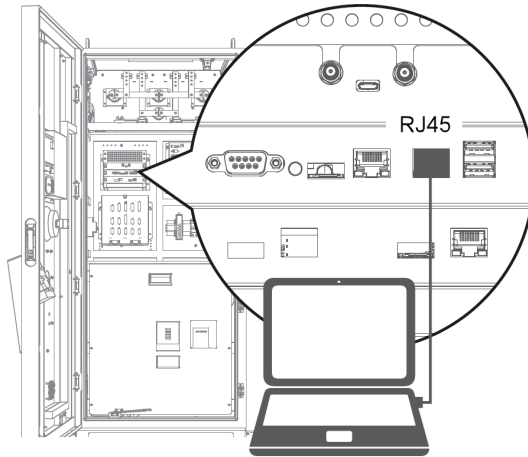

Figure 31. RJ-45 Port
9) Connect the Ethernet cable to the EVSE RJ-45 port. See Figure 31.
- Connect an RJ45 cable. See Figure 31.